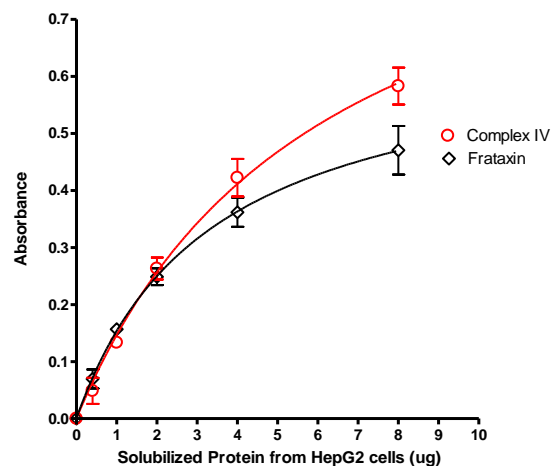

Figure 2. Example of standard curves.
1. Using the signal intensities of the Complex IV band and frataxin band on each dipstick, generate 2 standard curves using a curve-fitting software program. Figure 2 shows a 2 fold dilution series using vehicle-treated HepG2 cells. Two dipsticks were used for each protein concentration. A one-site hyperbola line was generated for best-fit analysis using GraphPad software.